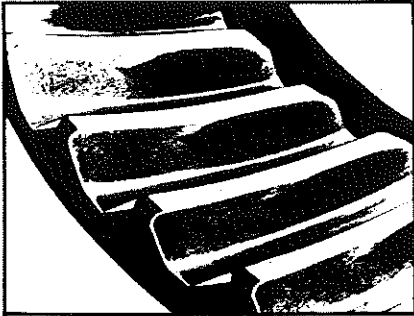

Figure 117A
- Look at the contact patterns on the ring gear teeth. Compare the patterns to **Figures 117A or B, 118A or B and 119A or B.**
New Conventional and Generoid Gear Sets - toward the toe of the gear tooth and in the center between the top and bottom of the tooth. See **Figures 117A and 117B.**